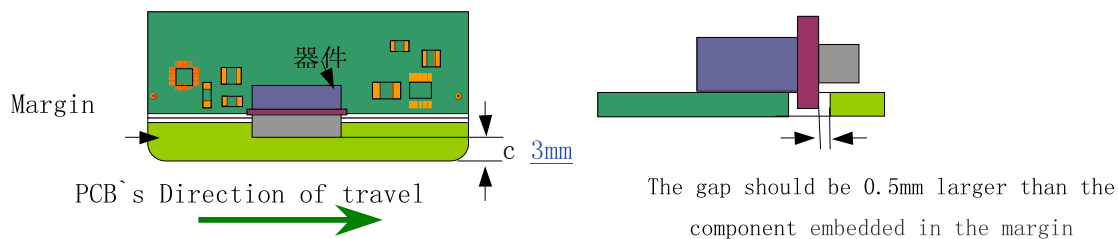

Figure 58: Protruding component margin gap requirements.
- For non-reflow soldering, when a component protrudes out from the PCB, the component must fit into the margin with 0.5mm clearance as shown in Figure 58.